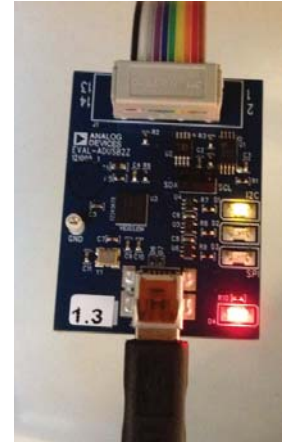

Figure 10. State of USBi Status LEDs After Driver Installation
- With the USBi still connected to the USB 2.0 port of the PC, check that both the yellow I²C LED and the red power indicator LED are illuminated (see Figure 10).